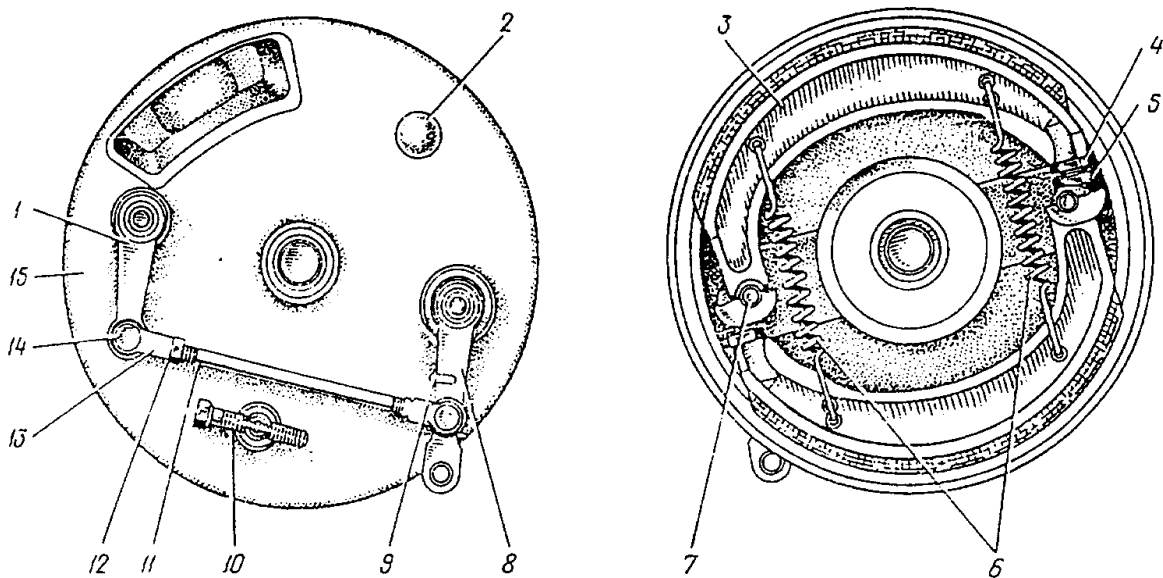

Figure 2.5-1 Front Wheel Brake
The front wheel brake (Fig. 2.5-1) has double leading shoes actuated by separate cams. Tie rod (11) of the upper and lower levers of the brake is factory-adjusted to length so as to equalize the brake cams. To return the levers to their initial position when the brake lever is released, a spring (9) is installed on the bottom lever. The rear wheel and sidecar wheel brakes are both single leading shoe.